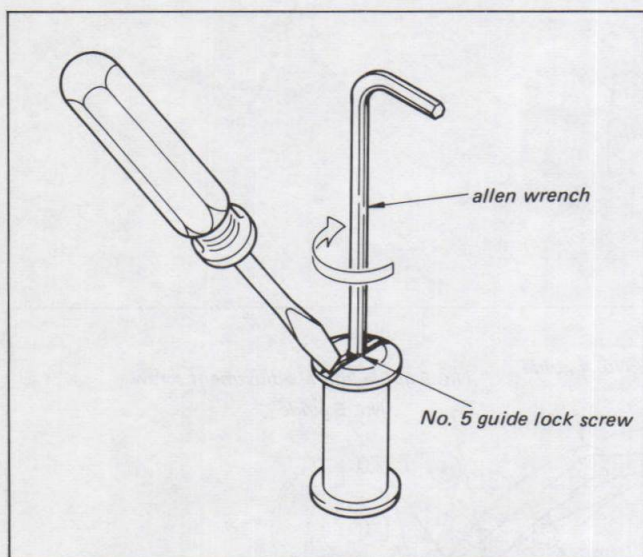

Fig. 4-5.
- 1) Move the No. 3 guide adjust plate away from the drum, and tighten screw ② at the point just before the lower tension of the tape loosens.
- 3) After turning and locking the No. 5 guide, flatten the waveform by raising the waveform entrance a little, and lock the No. 5 guide lock screw at this point. Press the No. 5 guide down with a screwdriver so that it does not turn when locking. (Fig. 4-5)